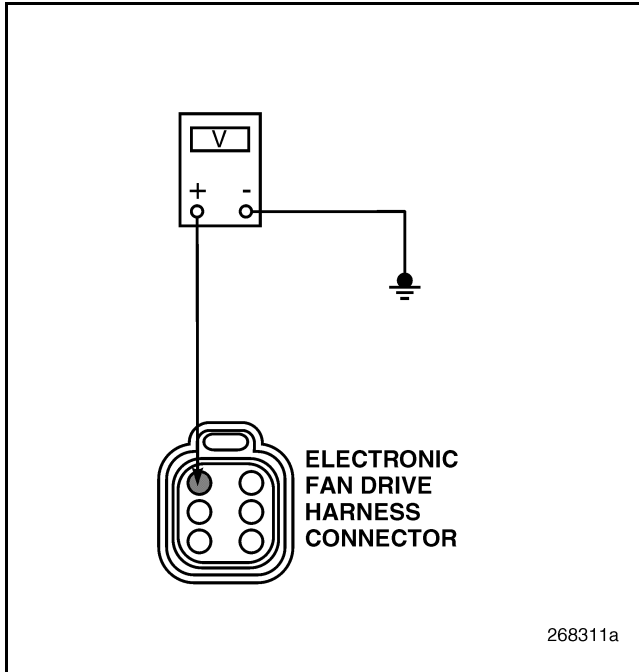

Figure 128
5. Measure the voltage between electronic fan drive harness connector pin 1 and a good ground (see Figure 128).